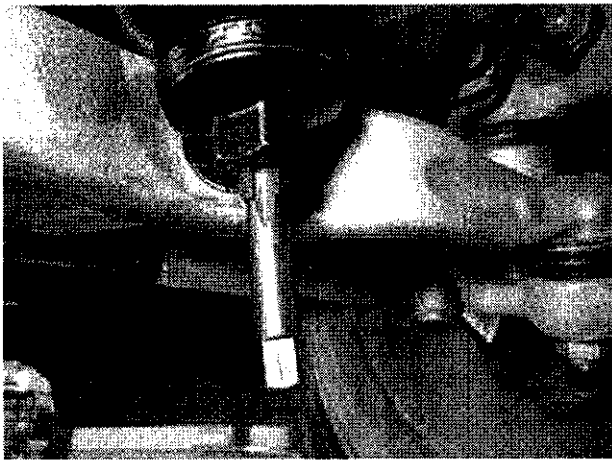

Figure 6
- Clean thread with bottoming tap (Figure 6): M 16x 1.5 mm and remove thread adhesive using compressed air.